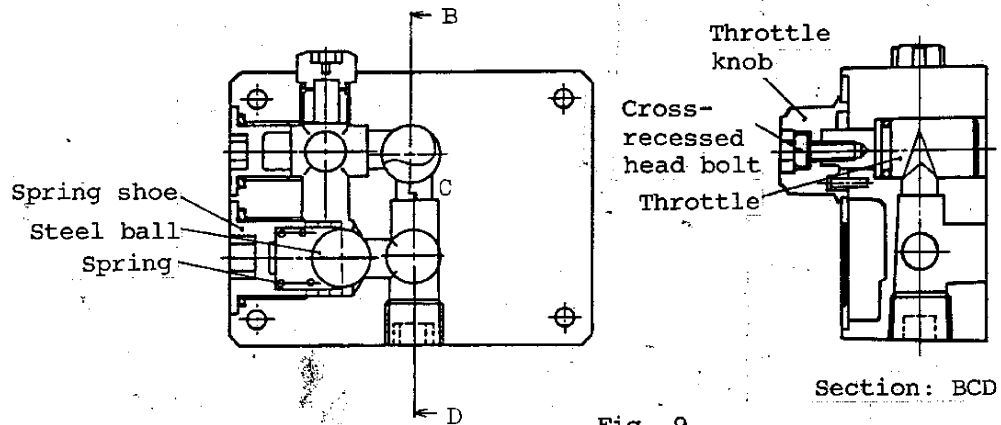

Fig. 9
4) Disassembling of throttle valve (Fig. 9)